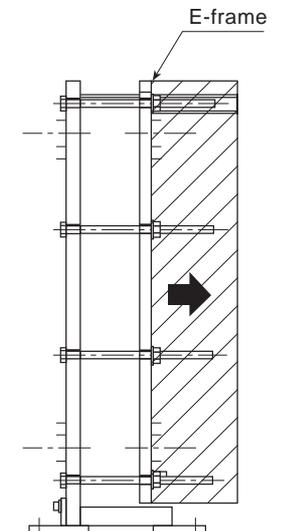

Fig.3.4 NJ Series
Do not install a fixed pipeline within the oblique-lined area (▨) in Figs.3.4 and 3.5. The E-frame must be moved back, and fixed piping within this area would prevent reverse movement of the E-frame for overhaul and inspection.
(13) Do not use the oblique-lined zone  in Figs.3.4 and 3.5 as a work passage. Be careful of accident by contact with the tightening bolts.
Connect two or more end pipes to each nozzle. Don't install fixed piping within the E-frame removal area. (Refer to Fig.3.4, 3.5)
Don't install fixed piping within the E-frame removal area. (Refer to Fig.3.4, 3.5)